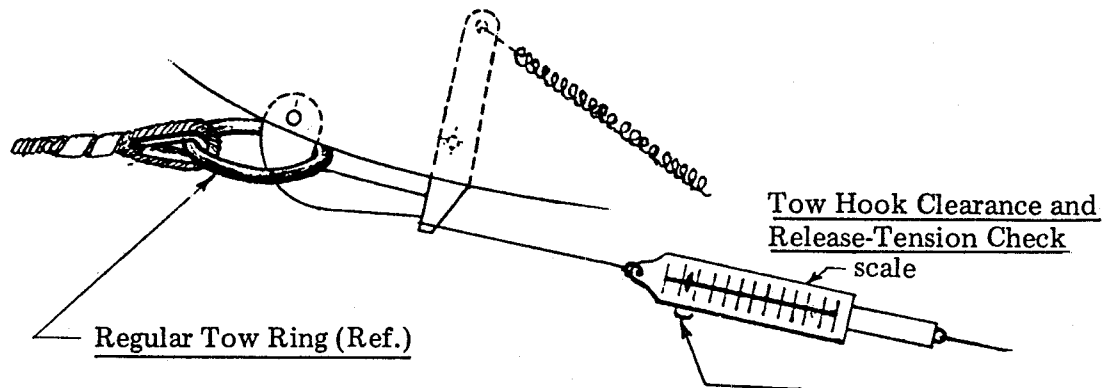

Figure 2
- d. Tow hook release spring tension is checked by applying a force of 9 - 20 lbs. at the end of the release arm. The hook should then release. If the tension is not within this tolerance, the spring should be replaced. See Figure 2.
Ref. paragraph B. 3. d. and Figure 2.